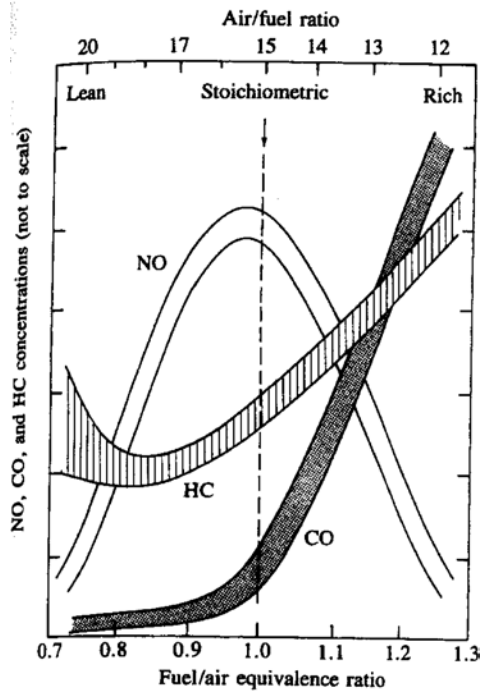

Figure Q6a
6. (a) Using the information given in Figure Q6a and Q6b, explain the changes in conversion efficiency seen for all three pollutants when the A/F value is: